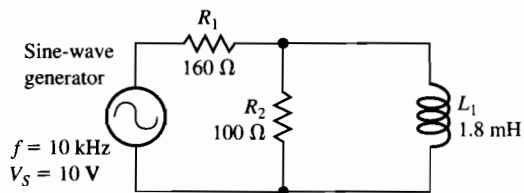

Figure C-13-1
14. For the circuit shown in Figure C-13-1, compute: